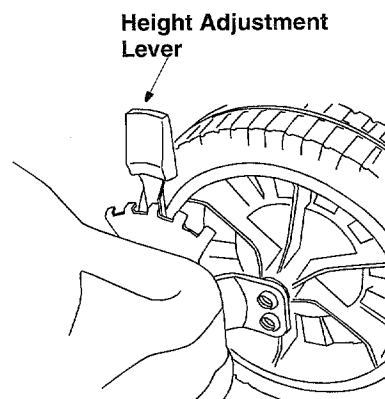

Figure 17
- Simply depress the lever towards wheel and move the wheel and lever assembly to the desired position. See Figure 17. All wheels must be placed in the same relative position for uniform cutting height.